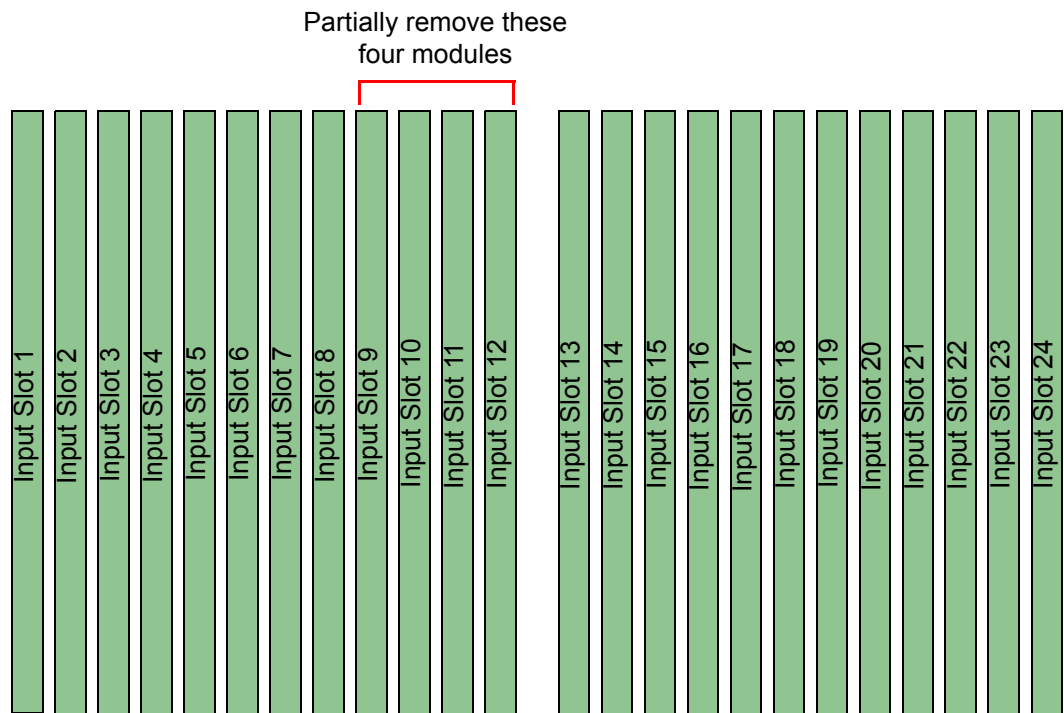

Figure 23 Sirius 840 Input Module Location (Front View)
2. Partially remove any input modules fitted in the slots indicated in Figure 23 They only need to be pulled out approximately 25 mm (1") to allow the rears to be removed. See section 5.3 for details on removing modules: